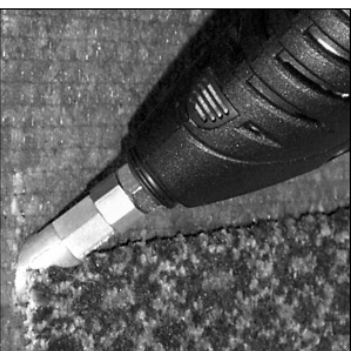
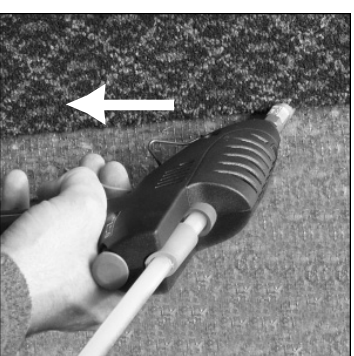

Figure 7. Right-hand orientation with the No. 4RS or No. 4RE Tip. (Left-hand orientation would be reversed with the No. 4LS Tip.)
Figure 8. Sealing the carpet edge with a No. 4RS or No. 4RE Tip. (Left-hand orientation would be reversed with the No. 4LS Tip.)
4. Your 4 Series Tip is used by hooking it beneath, with slight and constant pressure against, the edge of the carpet as shown in Figure 7. To seal the edge, squeeze the trigger and pull the gun toward you at a constant speed as shown in Figure 8.